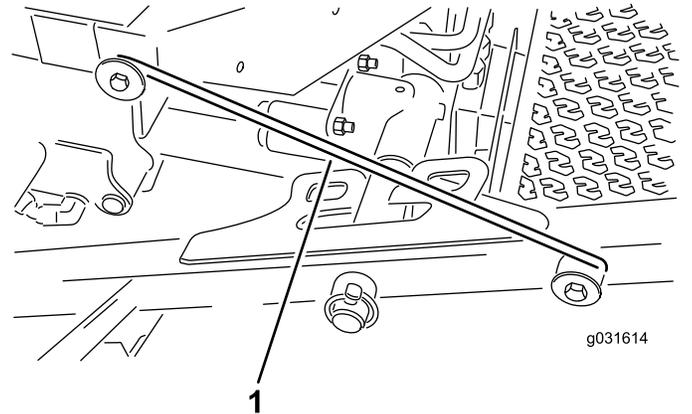

Figure 27
4. Release the latch rod from the front carrier-frame retainer (Figure 27).
5. Lift the outside of the front cutting units and place the latch over the frame pin mounted on the front of the operator's platform (Figure 27).